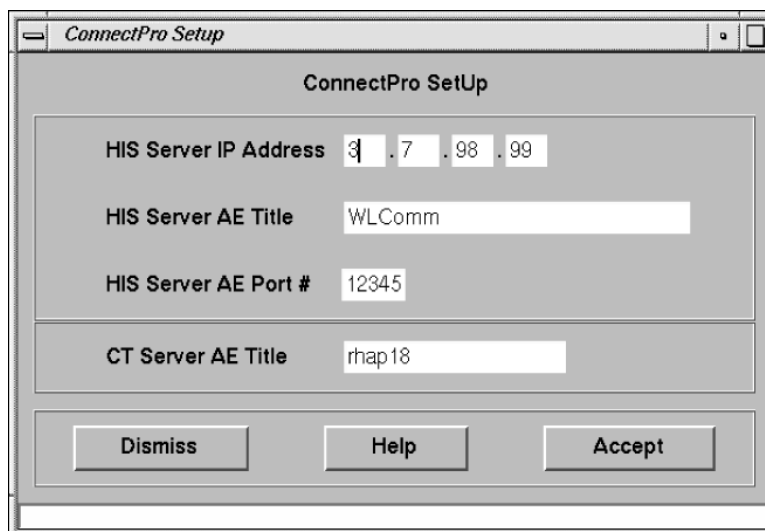

Figure 4-7 ConnectPro Setup Screen
- the console displays the ConnectPro Setup window (as shown in Figure 4-7)